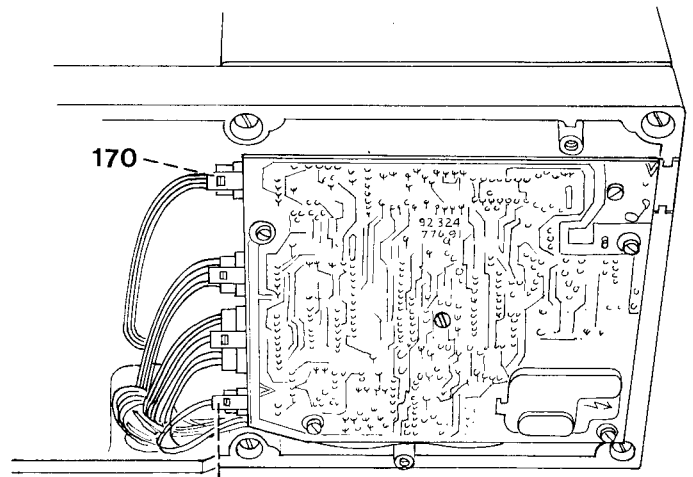

Fig. 29f
- Replace the base plate and reconnect all wires (Fig. 29f).